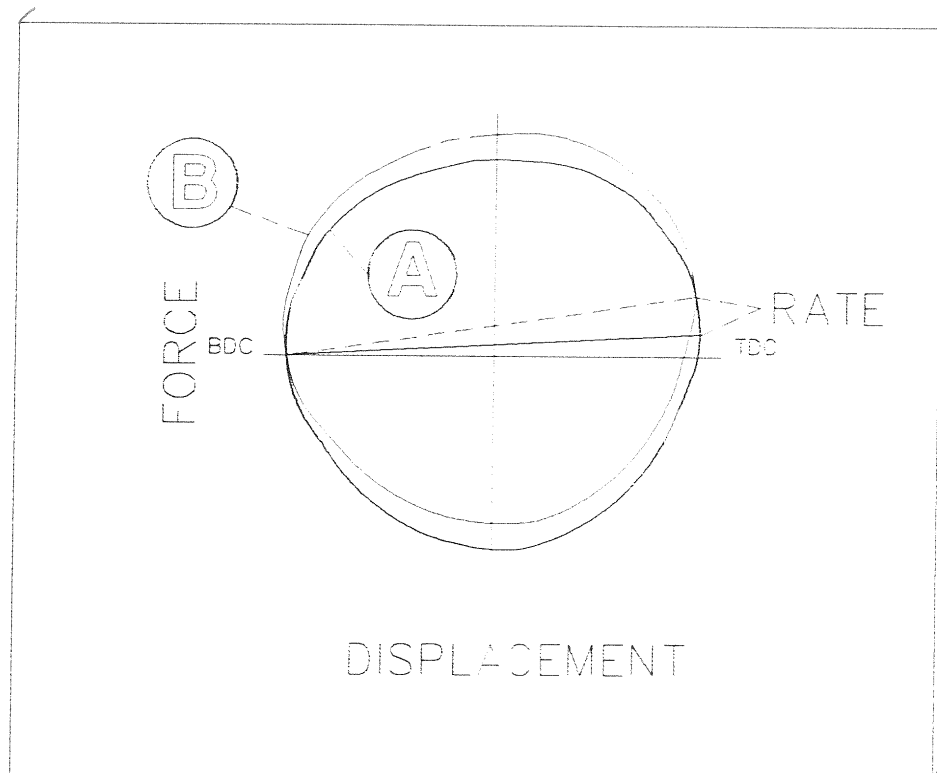

Fig. 20
Should the volume of the gas chamber be relatively small compared to that of the shaft then an additional spring rate can be noted on the force vs displacement graph. The force at BDC & TDC should be identical. Should there be an increase in force at TDC then the damper is said to have an additional spring rate. Most dampers have a slight spring rate due to the volume of nitrogen gas being compressed. The amount of acceptable rate depends on the application. Fig.20 show two examples of small (A) & large (B) spring rates incurred by this effect.